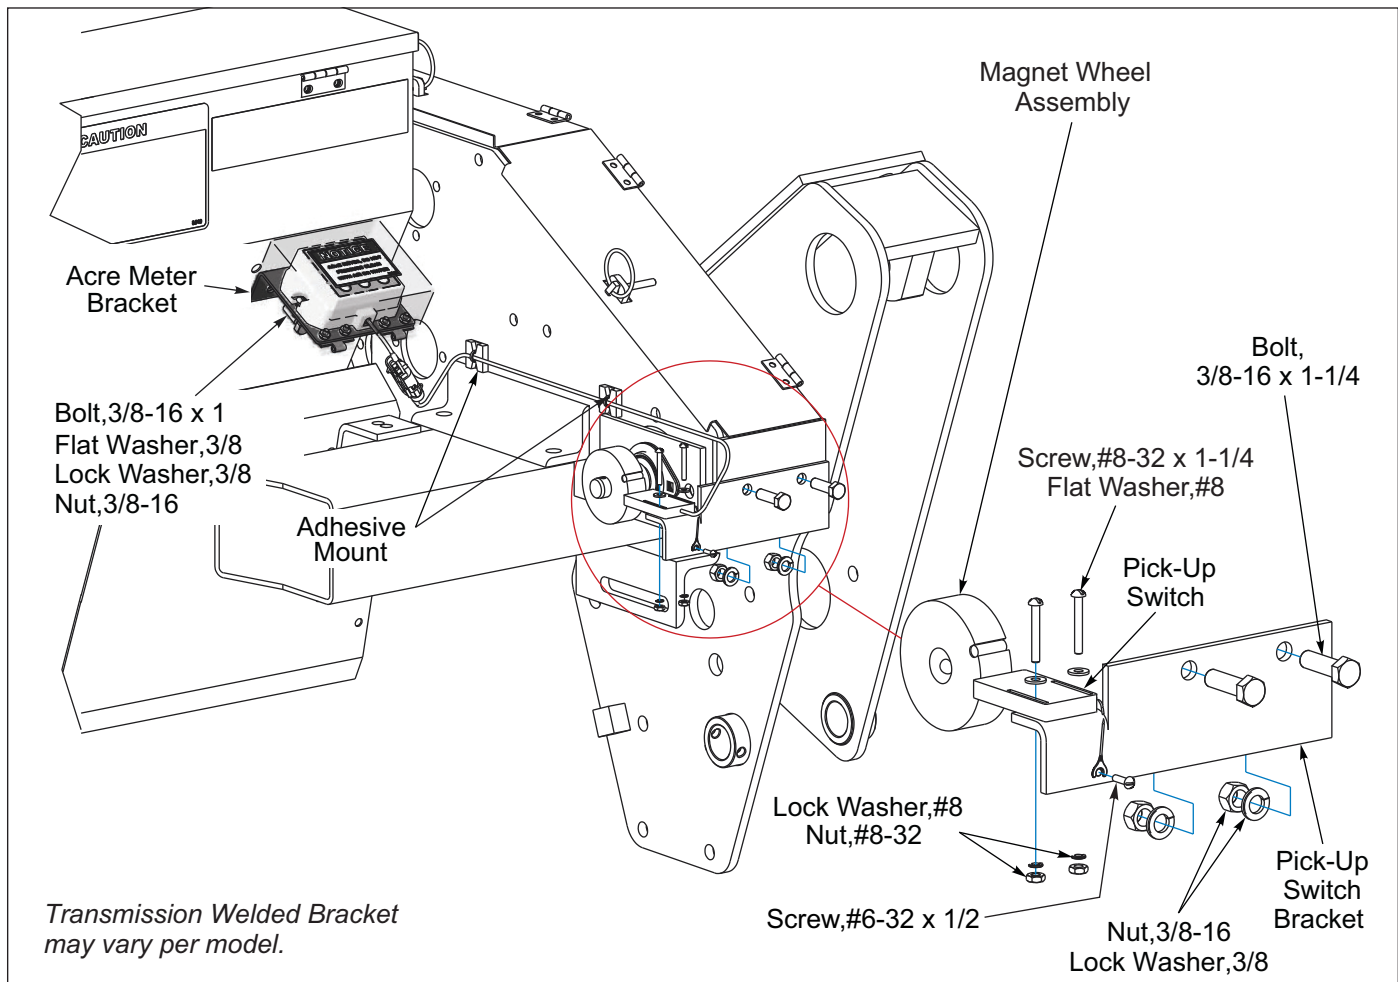

Figure 2-38: Electronic Acre Meter
2. Attach the Acre Meter Bracket to the Seed Box with 3/8-16 x 1 Bolts, Flat Washers, Lock Washers and Nuts. See Figure 2-38.